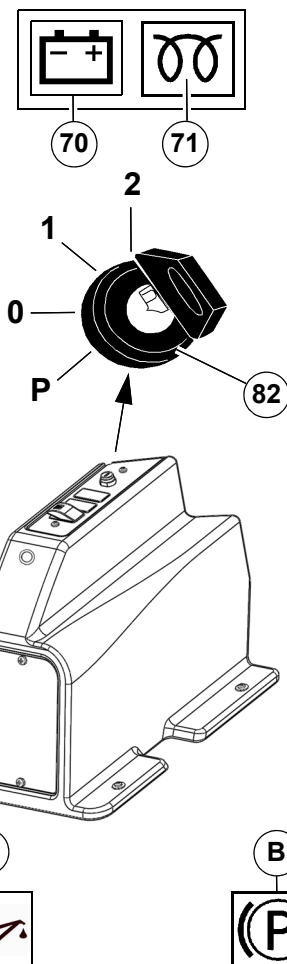

Fig. 50:
- If the engine oil pressure warning symbol **Fig. 50-A** in the multifunctional display lights up with the engine running, there is a risk of engine damage! Stop the vehicle in the safe range. Turn the engine off immediately and check the oil level. Have the cause of the inadequate engine oil pressure removed.
- The parking brake warning symbol **Fig. 50-B** in the multifunctional display may light up.